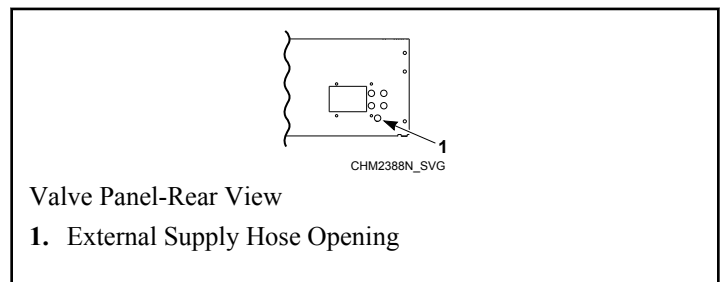

Figure 37
1. Facing the rear of the machine, locate the five 3/8 inch supply hose connections found on the right-hand side of the valve panel. Refer to *Figure 37*.